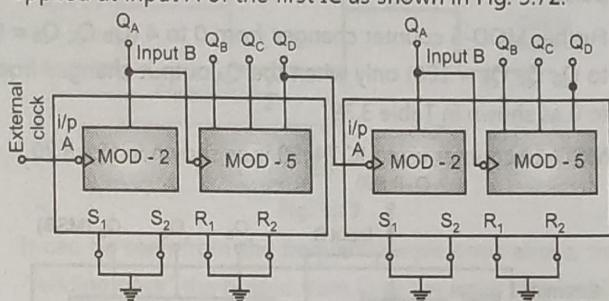

Fig. 3.72 : MOD-100 counter using two 74C90
the cascading by connecting Q_D out of first IC as clock input A of second IC. External clock pulses are needed to be applied at input A of the first IC as shown in Fig. 3.72.
- As shown in Fig. 3.72 for normal operation the set and reset inputs of both ICs are disable by connecting them to ground.
- In the Fig. 3.72, the first IC represents one's digit and the second IC represent ten's digit.